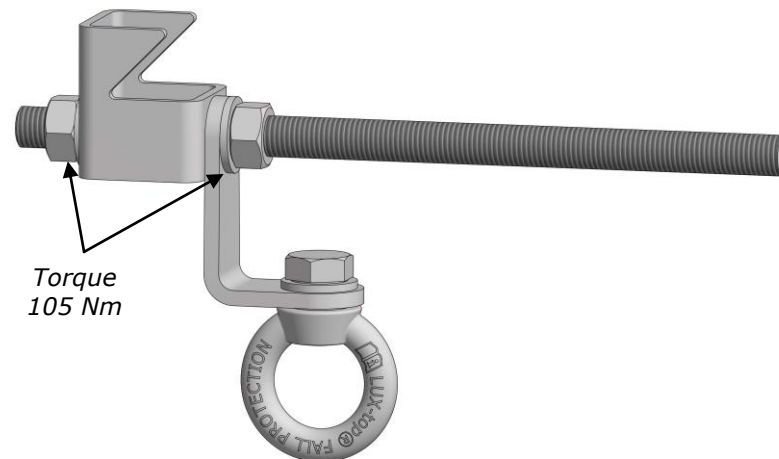

Figure 1
1. Fasten girder clamp with eye holder + eye on the threaded rod (M16) according to *Figure 1*. Tighten the nuts on both sides with a torque of 105 Nm.